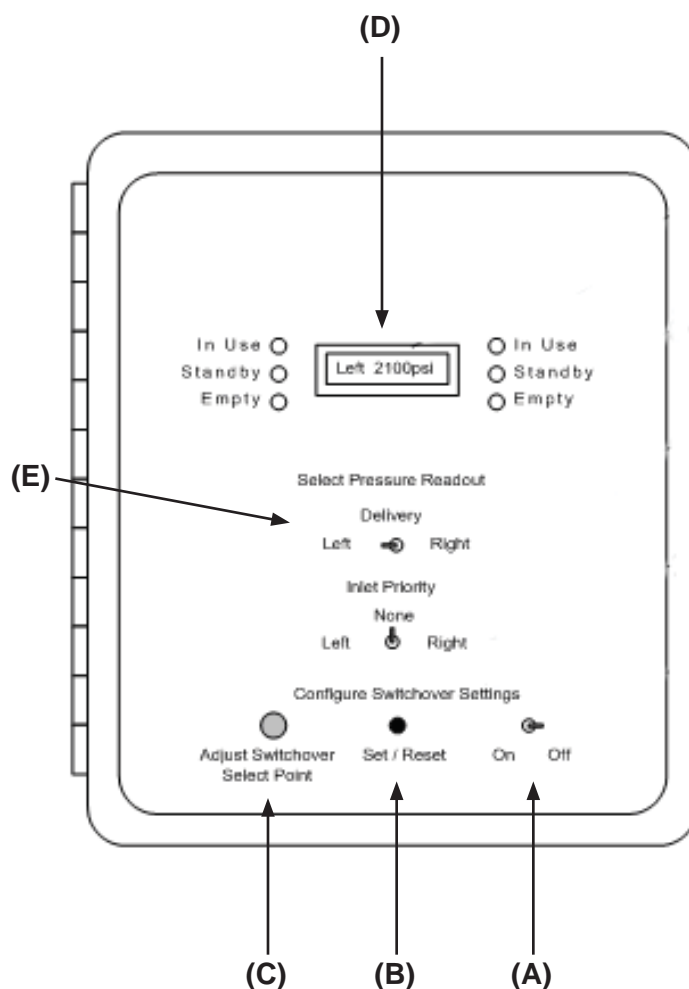

Fig. 5: Cabinet Controls
2. Set "ON/Off" switch to "ON", **Fig. 5 (A)**. (Red & green LED's will flash for a short while).
3. On the **Pressure Readout** switch, **Fig. 5 (E)**, select right bank.
4. Looking at the LCD Display, **Fig. 5 (D)**, adjust the desired switchover pressure set point by turning the Adjust Switchover Select Point" knob **Fig.5 (C)**. Turn clockwise to increase the switchover pressure setting or counter clockwise to decrease the switchover pressure setting (Value will display in increments of 12 PSIG).
5. Once you have verified the desired switchover pressure setting on the LCD Display, **Fig. 5 (D)**, press the "Set / Reset" button, **Fig. 5 (B)** and release. This stores the switchover pressure for the Right Bank.
6. Move the Select "Pressure Readout" switch to the left position. Verify the setting on the LCD panel, **Fig. 5 (D)**, or adjust **Fig. 5 (C)** to desired switchover pressure setting.
7. Once you have verified the desired setting, **Fig. 5 (D)**, press the "Set / Reset" button, **Fig. 5 (B)** and release.
9. Set the **Configure Switchover Setting** "ON/Off" switch to off, **Fig. 5 (A)**. (LED's will stop flashing & go back to normal operation).
10. Press the Configure Switchover Settings "Set / Reset" button and release. **Fig 5 (B)**.